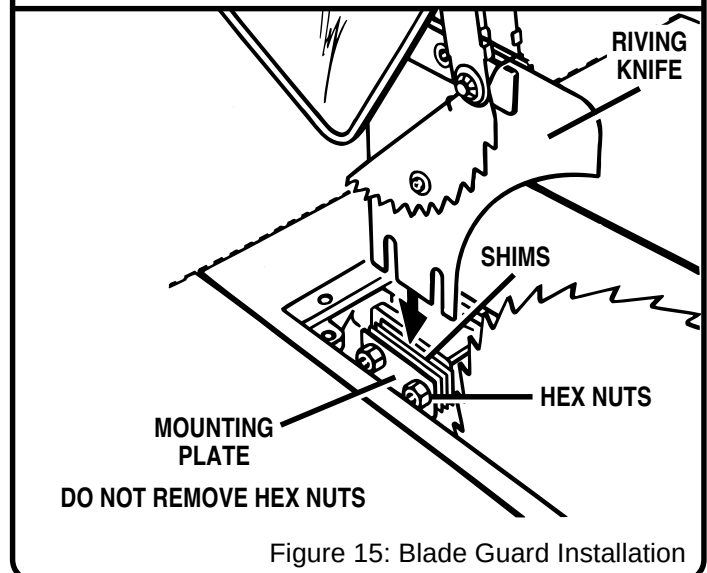

Figure 15: Blade Guard Installation
4. Using the small hex wrench, install the blade guard assembly by loosening the two attachment hex nuts enough to slide the riving knife down between the shims. **Do not remove the hex nuts.** *See Figure 15.* Partially retighten the two attachment nuts. Check the blade and riving knife alignment. Make sure riving knife clears blade by 1/8 in. *See Figure 27.*